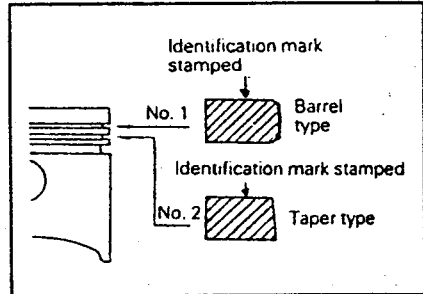

Fig. 1.41. — The correct arrangement of the piston ring gaps.
- Fit the centre piston ring (compression ring) and the upper compression ring with a pair of piston ring pliers, with the size mark and the maker's mark facing towards the piston crown. Note that the two compression rings are not identical, although of the same size. The chrome-plated piston ring is fitted to the upper groove. Fig. 1.41 shows a sectional view through piston and piston rings for reference.